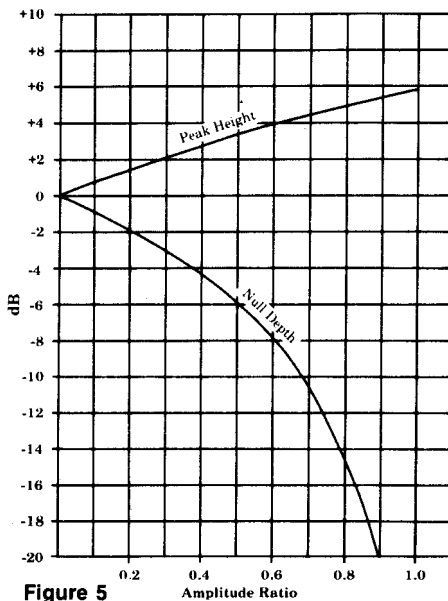
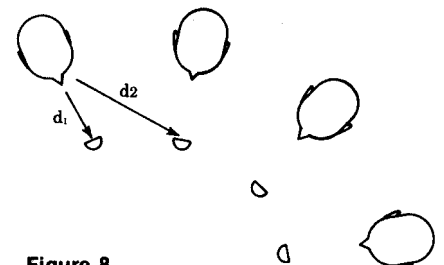

Figure 5
Figure 8
The boost will be less than 6 dB above normal and the nulls will be less than minus infinity if the delayed signal is less than the direct. Considering these two amplitudes as a ratio of unity or less, Figure 5 enables one to determine theoretical peak height and null depth. If the delayed component is 80% of the direct, the peak height is above 5 dB and the null depth about 14 dB.
the case of multiple sources close together, each source associated with its own microphone. Let us consider the singing group of Figure 8 with each of the four singers having his or her individual microphone. Singer A is d_1 inches from his or her own mike and d_2 inches from the next mike. The voice of A, picked up by both mikes, is mixed in the mixer with all the comb filter effects resulting from the path difference between d_1 and d_2 . As each singer's voice is picked up, one degree or another, by all microphones, the situation gets more and more complex. Fortunately, sounds picked up by the more distant microphones are weaker and the comb filter boosts and dips are correspondingly reduced as per Figure 5. The experiments reported by Burroughs² indicate that if singer A's voice is at least three times farther from the neighboring mike than from his own, the comb filter effects are negligible. If all singers place their microphones inside their mouths (some come close to this), the comb filter effects are submerged by other problems. If the "proximity effect" of the microphone boosts the bass, perhaps this amount of proximity will completely eliminate the highs as well as comb filter effects.
The soloist now moves back to a point 50" from the microphone, either to improve "ambience," simply shrinking in fear, or for some other reason good enough for us to get on with this example. The direct path (50") is now somewhat more comparable to the reflected (122.7") and the reflected component arrives at the mike about 5.4 ms later than the direct. This would put the first null around 100 Hz, the second one near 300 Hz, which could be serious if the amplitudes are close enough in magnitude. It turns out that the inverse square loss is about 7.8 dB to which we must add 0.4 dB for floor reflection and something like 1 dB for cardioid pattern 66° off axis making a total of something like 9.2 dB. This corresponds to a ratio amplitude of about 0.35 which, from Figure 5, indicates we can expect nulls about 4 dB deep and peaks about 2 dB high, or overall perturbations of our response of about 6 dB.
Other close and distant microphone pickups are illustrated in Figure 9. Figure 9(B) shows a common geometry which can result in serious degradation of quality. Assume that $d_1 = 12$ " and $d_2 = 25$ ". Then sound along the d_2 path would arrive close to 1 ms after d_1 which takes significant notches from the signal spectrum. The amplitude ratio would be close to 0.5 and, referring to Figure 5, we see that interference peaks would rise to about +3 dB and nulls would dip to about -6 dB giving overall response irregularities of about 9 dB. Closer talking will help reduce this as well as a good sponge rubber pad on the desk top.